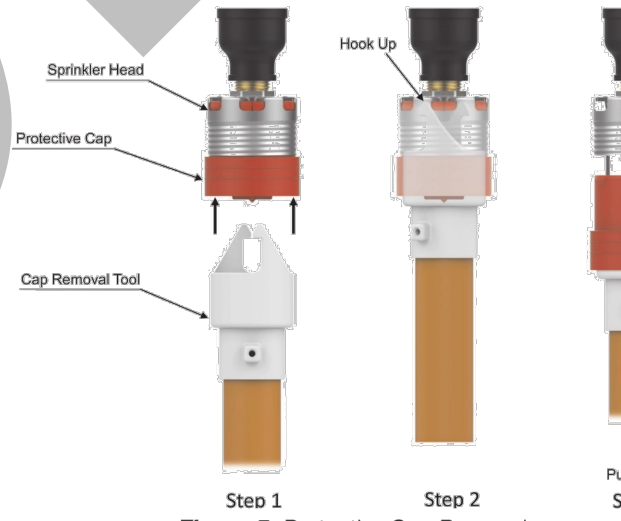

Figure 5: Protective Cap Removal
Step 1: The installation requirements for the sprinkler are as follows: to be installed only in the pendent position with the wateryway perpendicular to the ceiling. Install the sprinkler fitting so that the distance from the face of the fitting to the mounting surface will be nominally 2 inches (50.8mm) as shown in Figure 5.
Step 4: Use the Cap Removal Tool for RC to remove the Protective Cap (Ref. Figure 5), and then push or screw a Cover Plate Assembly on the Cup of the Sprinkler by hand until its flange just has contact with the ceiling (Ref. Figure 6 and Figure 7). Stop tightening the Cover Plate Assembly once the flange has contact with the ceiling. If the ceiling has been lifted from its normal position in the process of tightening the Cover Plate Assembly, readjust the cover plate assembly as necessary. When properly installed, there is a nominal 1/16 inch (1.6mm) air gap between the lip of the Cover Plate and the ceiling, as shown in Figure 6.